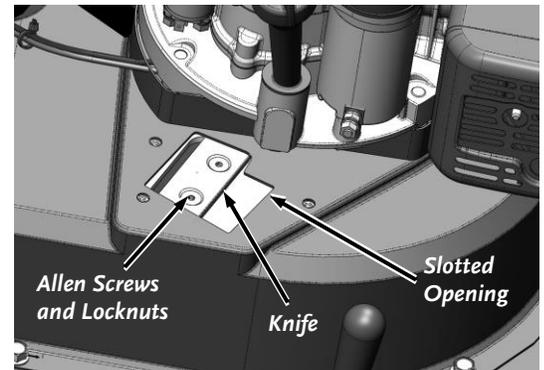

Figure 39
6. Install a new or sharpened Knife with the sharp edge toward the Slotted Opening (**Figure 39**). Install in reverse order of removal, inserting the Screws first.